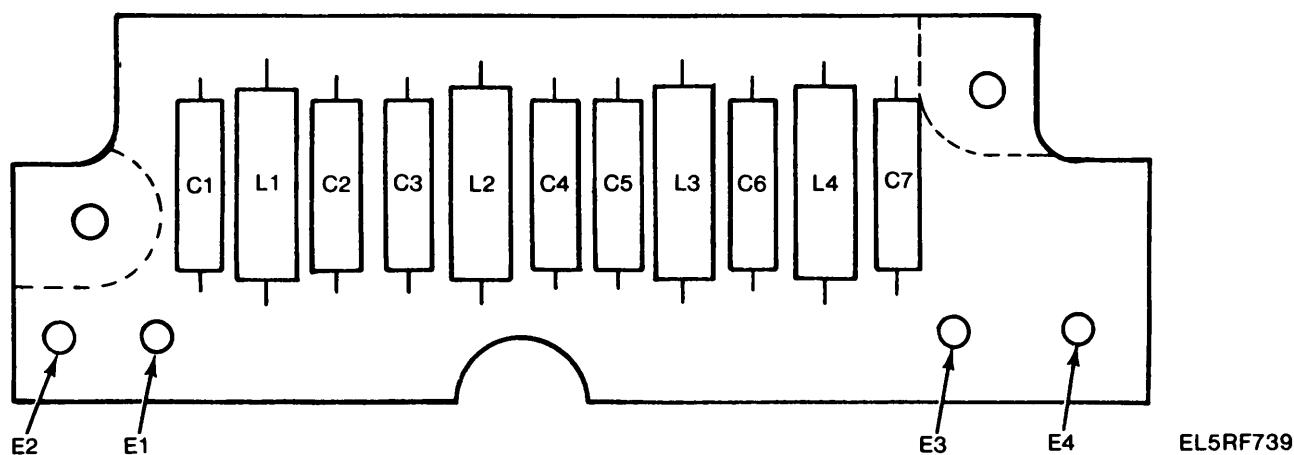

Figure 3-106. Lowpass Filter 5TR1A4FL1, Parts Location.
- b. Using oscilloscope, check the input signal at E1 and E3 (5TR1A4FL1); refer to chart *d(1)* below. If signal not present at E3, check continuity of L1 through L4 (5TR1A4FL1). If defective, replace 5TR1A4FL1 (fig. 3-106).
Check input filter components; refer to fig. 3-106.